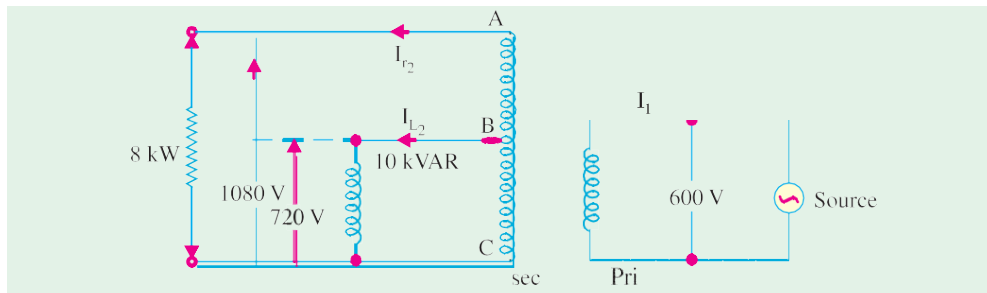

Fig. 32.42
**Solution.** Loads are connected as shown in Fig. 32.42.